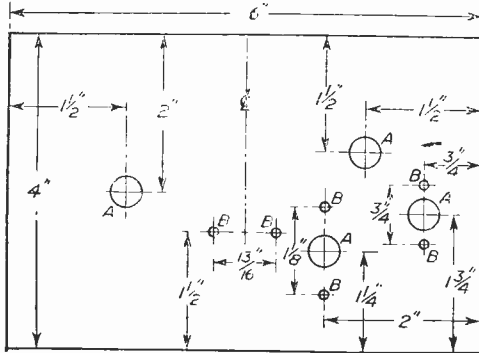

Fig. 4.—Details of the front panel.
First, mark out and cut panel in 20 s.w.g. aluminum as in Fig. 4. The holes marked A are $\frac{3}{16}$ in. in diameter and all other holes are $\frac{1}{16}$ in. (B).